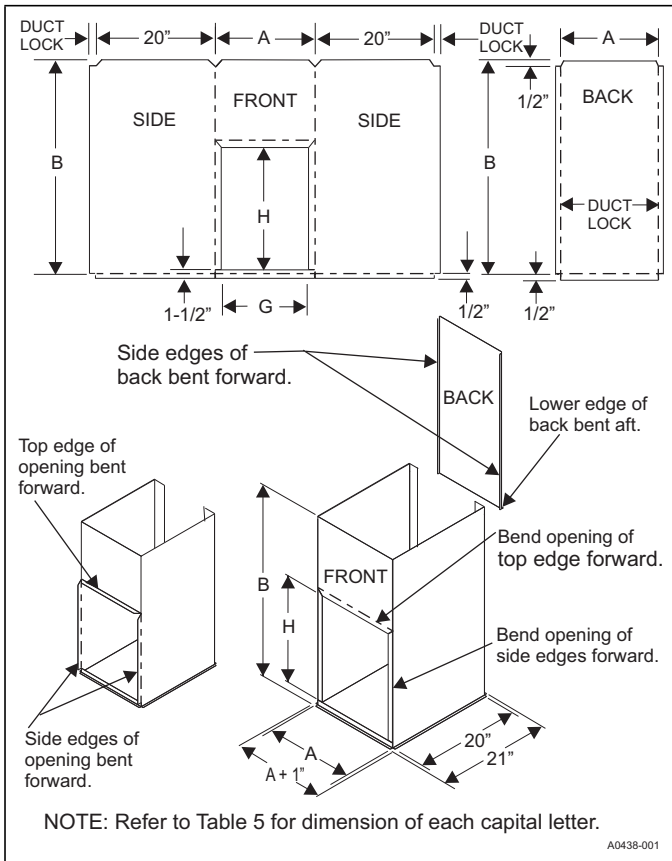

FIGURE 11: Duct Work Coil Installation and Access Fabrication
TABLE 5: Duct Work Dimensions¹ - CU Coils (Refer to Figures 11,12,14)
5. Using a folding tool and hand seamer, bend the sides and top edges of the cut opening forward from the plenum at a 90 degree angle. Refer to Figure 11.